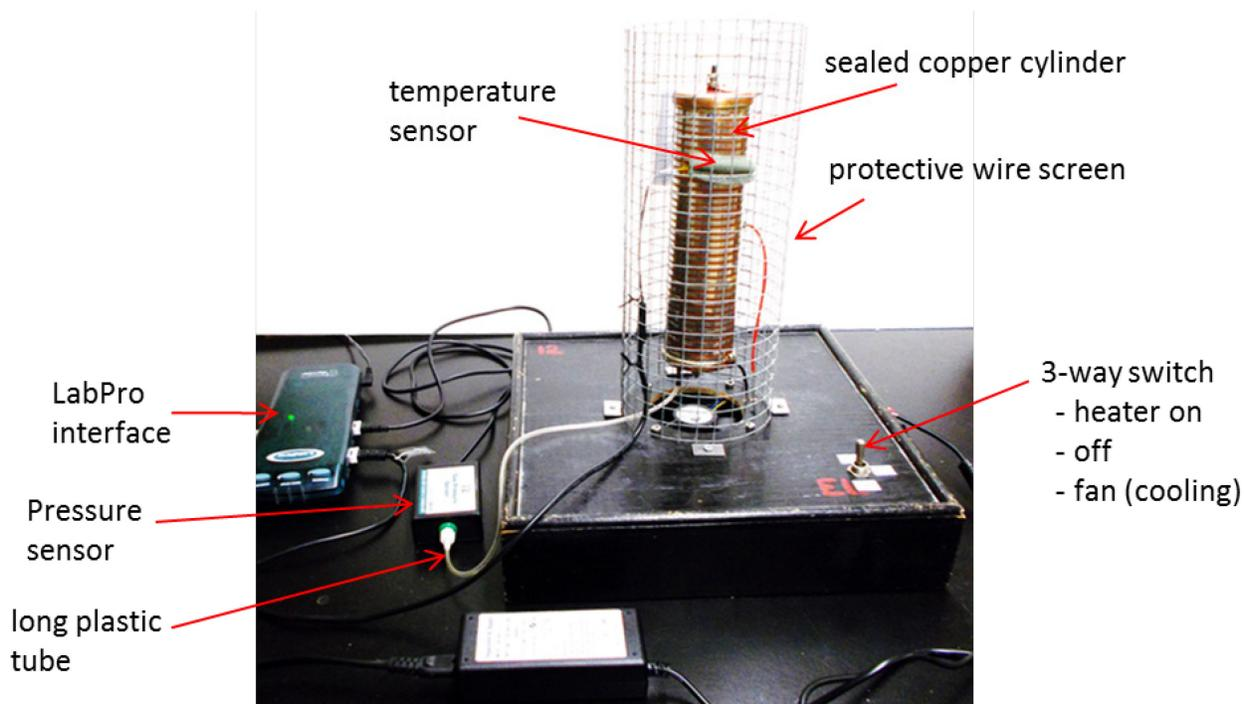

Figure 3. Photo showing Charles' Law apparatus.
The Charles Law apparatus uses a nichrome wire ribbon wrapped around a cylindrical copper vessel to heat the air contained within the vessel (see Figure 3). This apparatus allows you to measure the pressure in the vessel as the temperature varies from room temperature (in the range of 20 °C to 25 °C) up to about 130 °C, the maximum temperature the apparatus can reach. Do not remove the wire mesh screen and do not push anything into or through the screen as this can damage the apparatus.
- (1) Set the toggle switch on the base of the Charles Law apparatus to the center (OFF) position (see Figure 3).
- (2) You will use the same Vernier pressure sensor box that you used in the Boyles Law apparatus. Carefully unscrew the plastic syringe from the pressure sensor box and reconnect the box to the long plastic tube that goes to the copper cylinder (see Figure 3).
- (3) Close the “Boyle’s Law” LoggerPro template. Go to your computer desktop, open the “**Templates**” folder and open the LoggerPro template named “Charles’ Law”. If the pressure reading seems off, follow the procedure used above to calibrate the pressure sensor.
- (4) The Charles Law apparatus uses a small temperature sensor fastened to the side of the copper cylinder and insulated from the ambient air with a small piece of foam rubber. The sensor connects to the computer using the standard LabPro interface. Be sure that the temperature sensor is plugged into #3 position on the LabPro interface box.
- (5) After starting the Charles Law LoggerPro template, check that the temperature is below 30°C. If not, turn on the fan to cool the cylinder by setting the toggle switch to FAN. Once the cylinder is at or below 30°C turn off the fan and allow the apparatus to equilibrate for ~2 minutes.